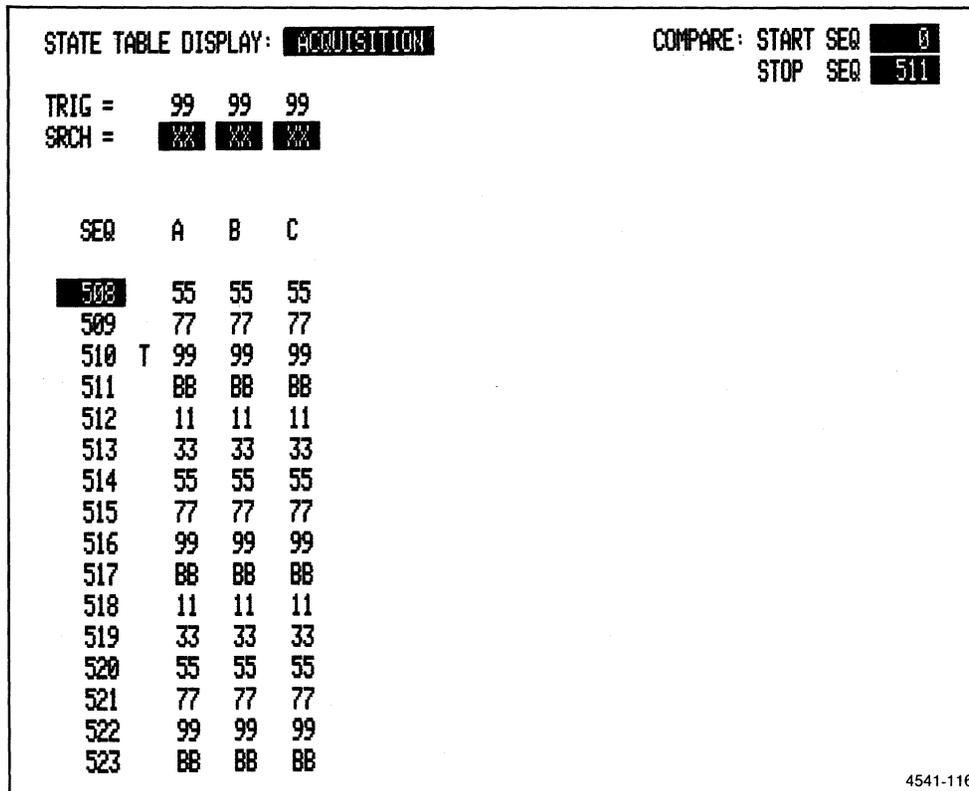

Figure 5-16. State Table display of Functional Test 10.
3. Verify that the test triggers and displays the repeating pattern in Figure 5-16.